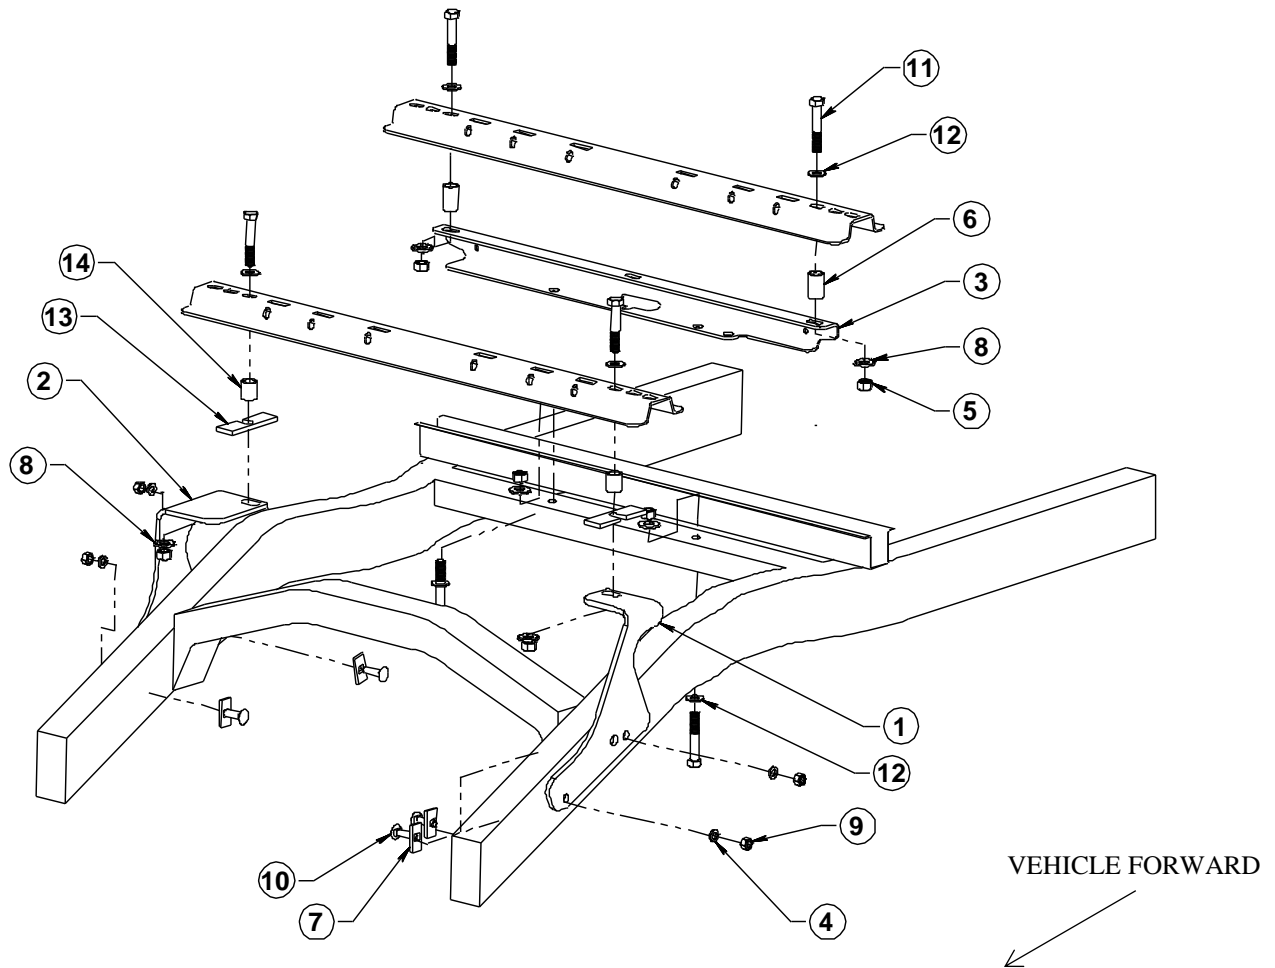

FIG. 2
13. Fasten the c-channel to the vehicle frame as shown in Figure 2 using 5/8" hardware. Bolt up through the trucks cross member. Install the 1-3/4" long tube spacers above the channel and within truck bed.
18. Install the front frame rail brackets as shown on page 4. Use the 1/2" pull wire to pull the carriage bolts and square hole plates into the frame. Enlarge 1/8" drilled holes to 5/8" with a drill bit. Install the 1.27" tube spacer in hole just drilled. If the hole drilled in your bed falls on the rise of your corrugation, place 5" x 1" block (part #13) underneath bed. If the hole falls in the dip of your corrugation, place block on top of bed. Reposition the mounting rails over the holes drilled in the bed. Fasten the front rail to the frame brackets as shown in figure 2 using the 5/8" bolt and flat washer down through the rail and tube spacer. Fasten with 5/8" serrated washer and nut.